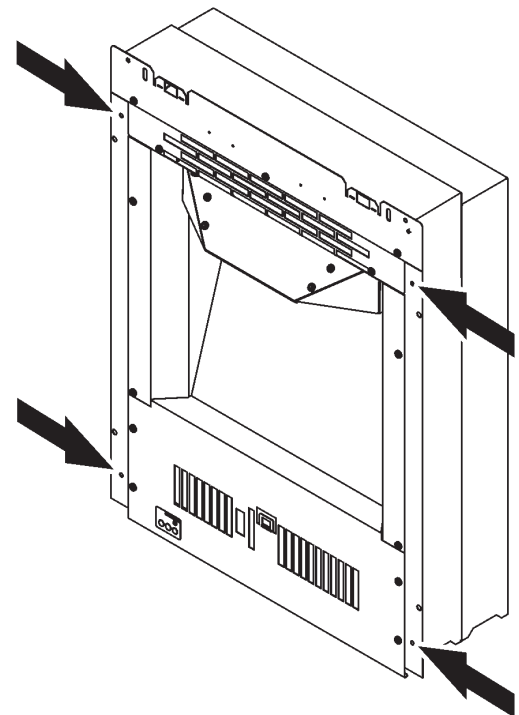

Figure 9. Fitting the optional spacer frame to the heater
Although this section deals with fireplace openings without a spacer, this method of securing the heater can also be used with the spacer frame supplied with the heater (See point 7 and figure 8 of method C). It can also be used with the optional spacer frame (See point 7 and figure 9 of method D).
1. There are four screws supplied with the optional spacer frame. The narrow flange of the optional spacer should be placed against the spacer supplied with the heater. Screw the optional spacer frame to the one supplied with the heater (See figure 9).
7. Secure the spacer frames to the heater using four No.8 x 3/8 screws supplied (See figures 9 and 3).
1. Secure the spacer frames to the heater as in steps 1 and 7 of METHOD D (See figure 9).